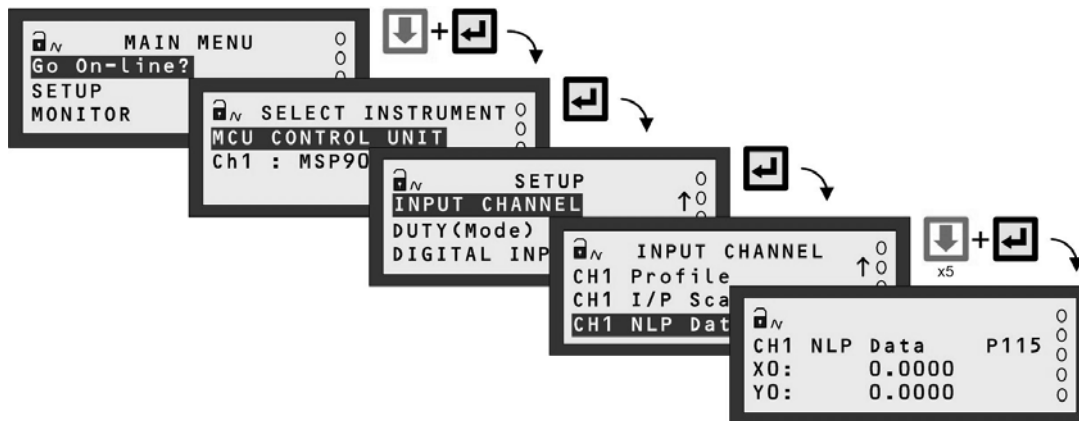

Figure 17: Navigation to P115 parameter screen
1. Navigate to the **P115** parameter screen, as guided in Figure 17 (below).